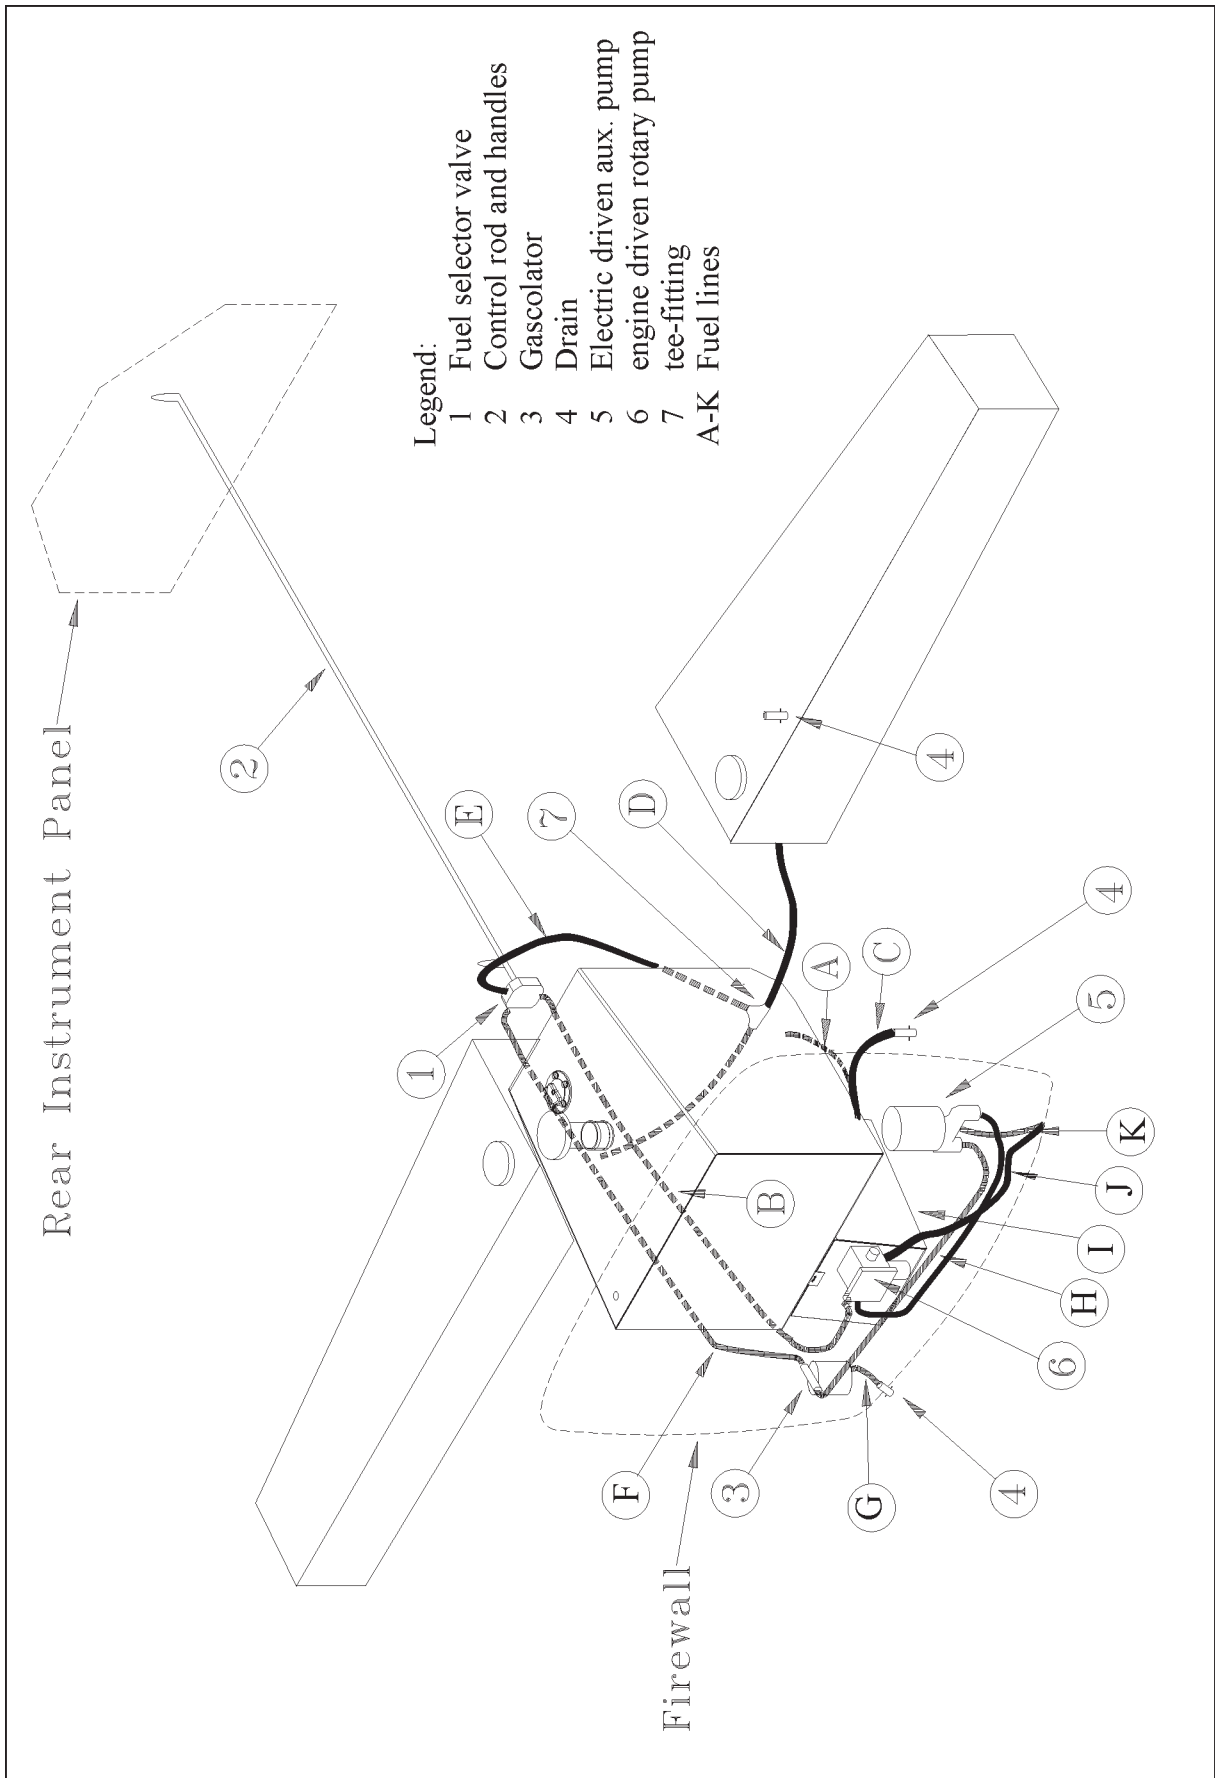

Figure 7
(Refer to figure 7) Flexible hoses and aluminium tubes (A-K) connect the particular components of the fuel system. The fuel lines connecting the wing tanks (D) meet at a tee-fitting (7) below the copilot seat.